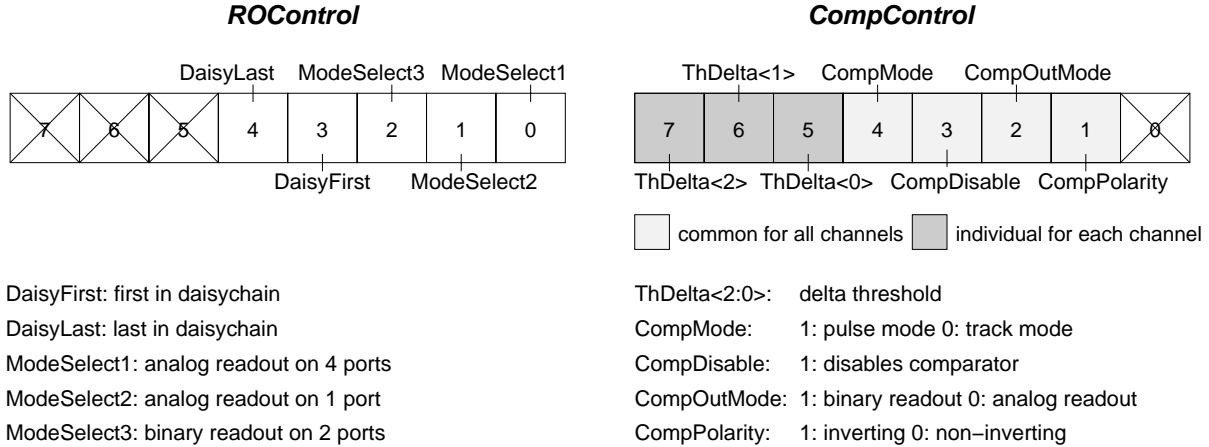

Figure 11: Bit assignment of the configuration registers *ROControl* and *CompControl*. All switches are active-high. 1 enables the switch, 0 disables it.
The comparator is configured via the register *CompControl* (see table 3 and fig. 11). *CompOutMode* defines the mode of operation of the comparator. *CompOutMode*=0 selects the analog mode, in which the output of the frontend amplifier is transferred to the pipeline. In binray mode (*CompOutMode*=1) the comparator output is fed into the pipeline. *CompDisable*=1 turns off the comparator's bias current. *CompPolarity* selects between an inverting (1) or non-inverting (0) comperator operation. *CompMode* switches between two different kinds of output signal. With *CompMode*=0 the output is as long active as the comparator input signal is above the threshold level. With *CompMode*=1 the output is only one CompClk cycle active, independent of the time, which the input signal is above the threshold.
The threshold level is generated from two programmable currents. *Ithmain* (register addresses 2 and 3) determines the global threshold, which is common to all channels. *Ithdelta* (register addresses 0 and 1) defines an additional delta voltage. The 3 MSBs of the configuration register *CompControl* ThDelta[2:0] (fig. 11) select the number of delta voltages which are being added to the global threshold voltage.
value and register content. A LSB corresponds to $0.977 \mu\text{A}$ for currents and 2.44 mV for voltages. Registers 0-29 are bias registers for the analog stages. Register 30 defines the latency, register 32 the ratio between the readout clock Rclk and the sampling clock Sclk. Each LSB reduces the frequency of Rclk with respect to Sclk by a factor of 2. The register value is modulo 8, a 0 means, that Sclk and Rclk have the same frequency. The registers 31 and 37 select the chip's mode of operation (readout mode, daisychain configuration) and define the comparator configuration. Fig. 11 shows the detailed bit assignment of the registers *ROControl* and *CompControl*.